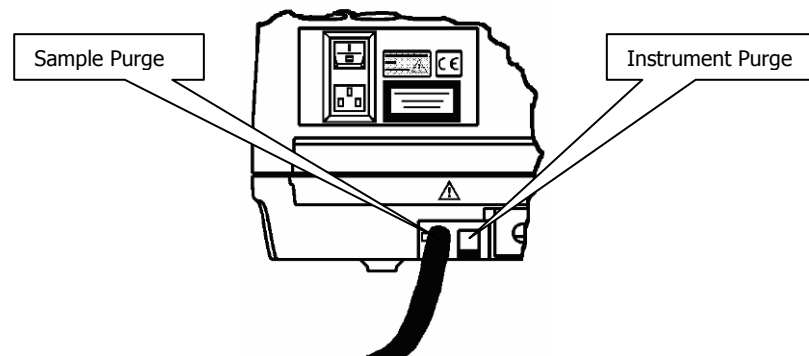

Figure 24 Connector fitted to purge port
3. Push the connector on the end of the tubing into the purge connector of the compartment to be purged (Figure 24).